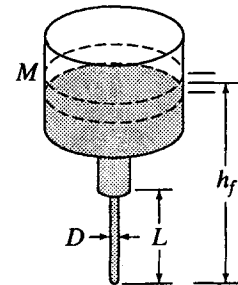

Figure 11.1
11.1.7 A tube viscometer similar to the one of Fig. 11.1 has a diameter of 0.0420 in and a length of 3.10 in. A volume of 60 mL flowed through the tube in 128.7 sec, causing the vertical distance from the liquid surface in the reservoir to the tube outlet to change from 10.00 to 9.50 in. Find the kinematic viscosity of the liquid.